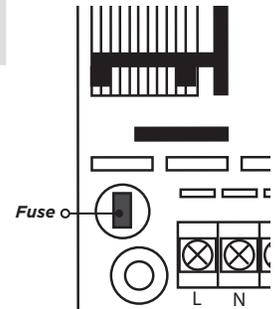

Figure 12: Fuse Location
2. Line up the two pegs on the new fuse and insert the fuse into the two holes on the 503INT PCB. See Figure 12.